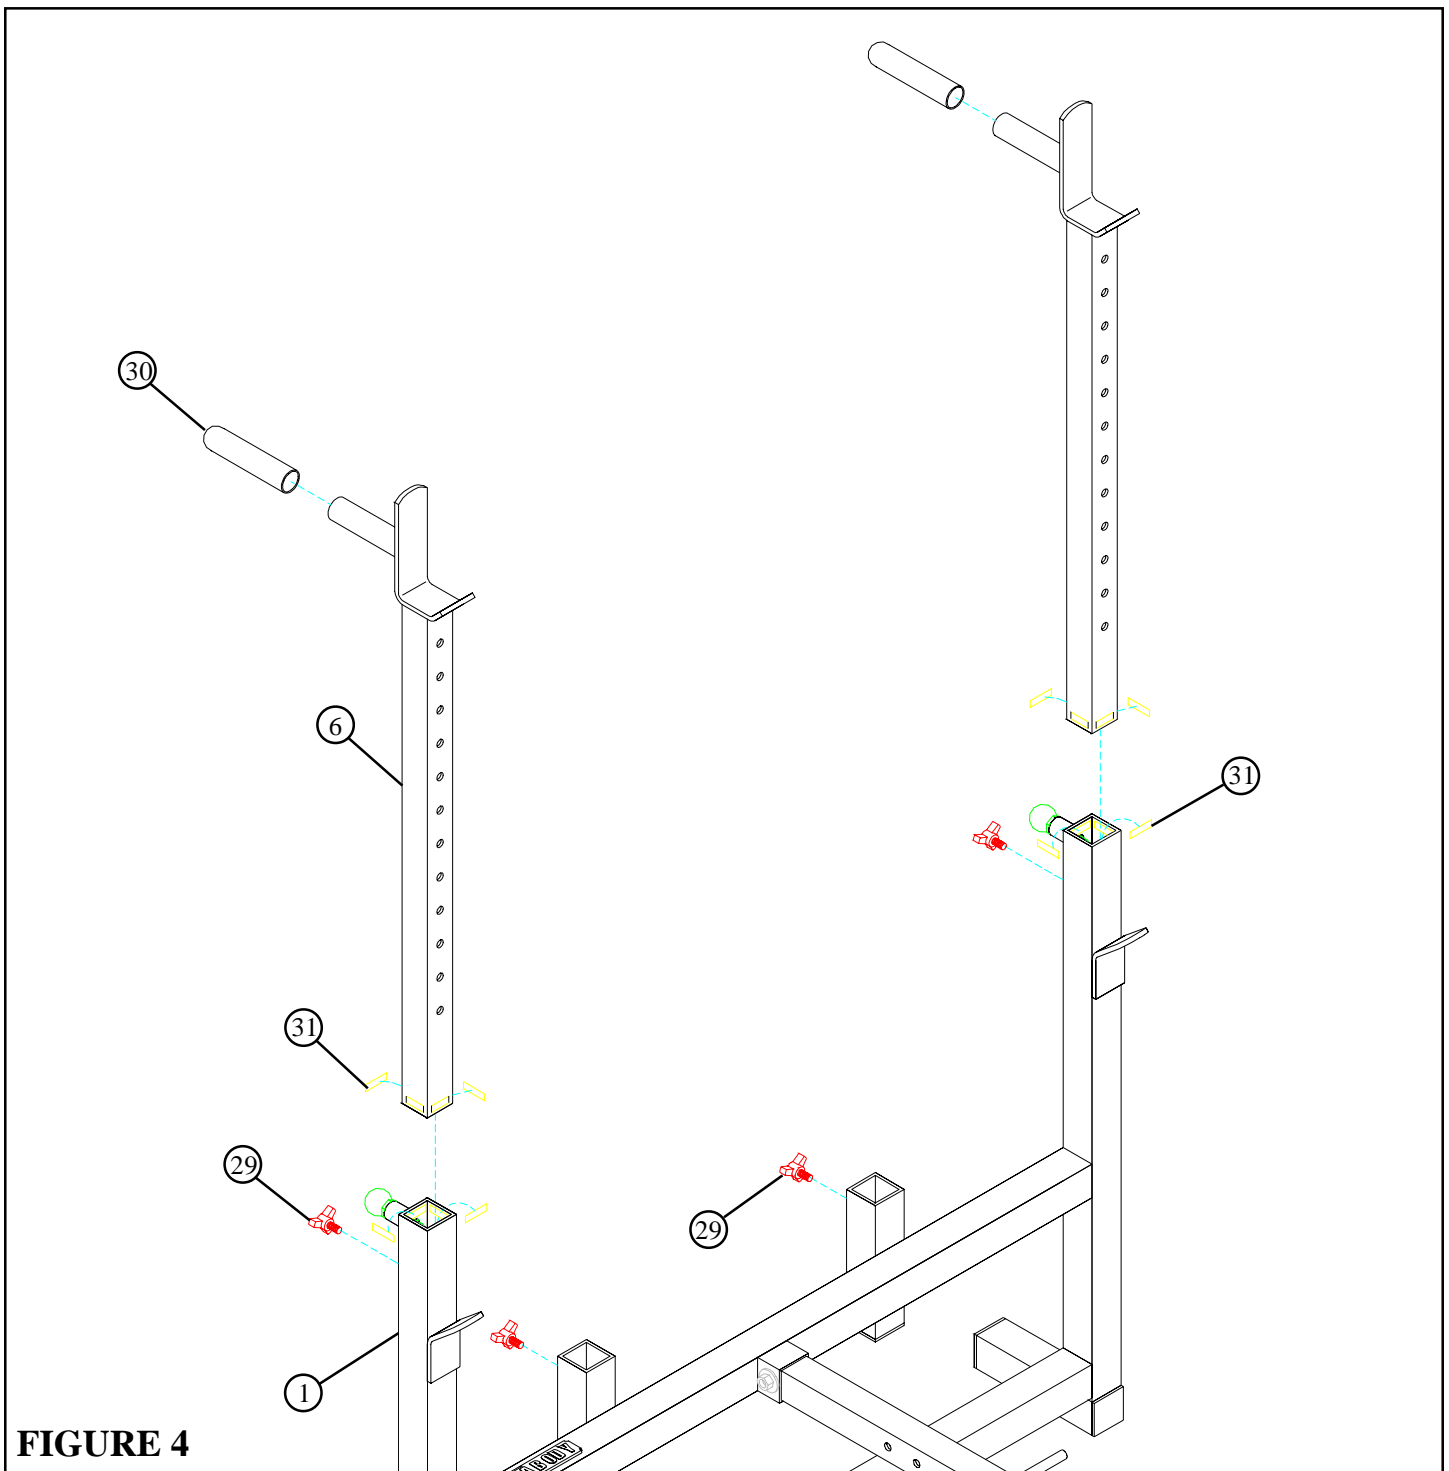

FIGURE 4
- Attach eight PARAGLIDE STRIPS (31) to both UPRIGHT TUBES on the UPRIGHT FRAME (1) (FOUR ON EACH END) as shown in FIGURE 4 using the following steps:
- Attach eight PARAGLIDE STRIPS (31) to each SADDLE (6) (FOUR ON EACH END) as shown in FIGURE 4.
- Slide two 1-1/4 X 5" GRIPS (30) over the DIP HANDLES of both SADDLES (6). **(IF A LUBRICANT IS REQUIRED, COAT THE INSIDE OF THE GRIP WITH RUBBING ALCOHOL.)**
- Pull back the SPRING PIN on the UPRIGHT TUBES, and insert the SADDLES (6) as shown in FIGURE 4.. Slide the SADDLE (6) down to the desired height and release the SPRING PIN into the hole.
- Secure the SADDLES (6) in place with two THUMBSCREWS (29) as shown in FIGURE 4.
- Attach two THUMBSCREWS (29) to the DIP TUBES on the UPRIGHT FRAME (1) as shown in FIGURE 4. When ready to perform the DIP EXERCISE, simply insert the SADDLES (6) into the DIP TUBES and tighten the two THUMBSCREWS